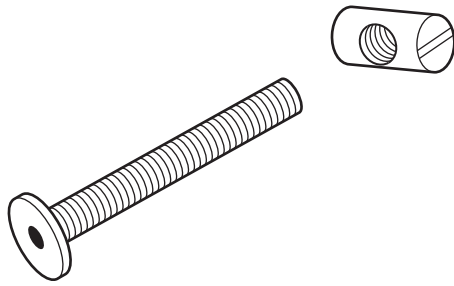
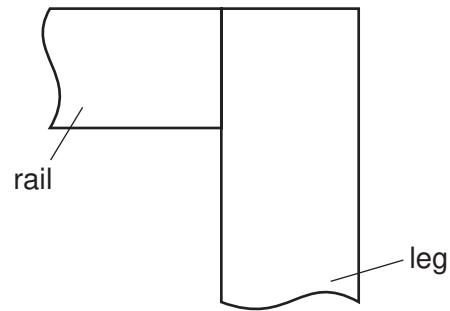

Fig. 2a
Fig. 2b
- 5 Fig. 2a shows a scan fitting. Complete Fig. 2b to show how a scan fitting could be used to join the rail and leg.